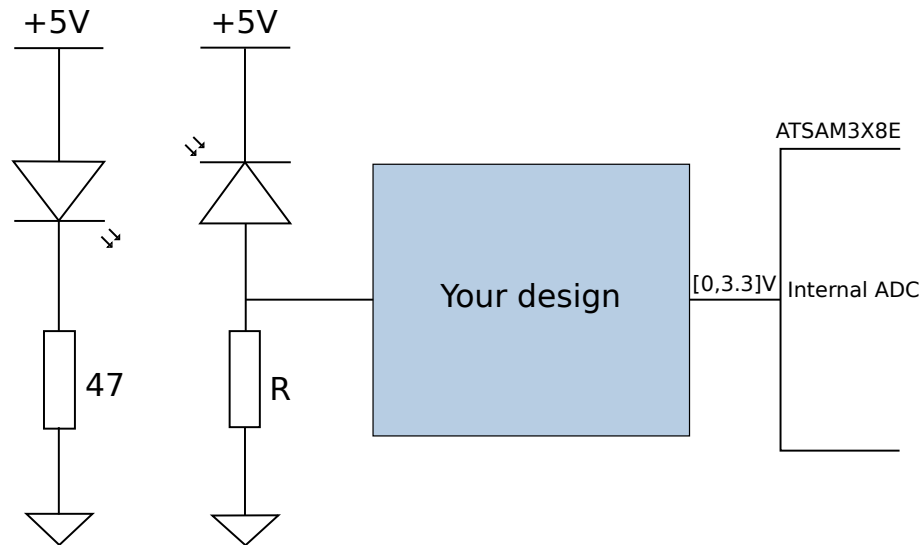

Figure 25: Suggested IR assembly
7. Connect the IR diodes in a way that makes it possible to detect when the IR beam is blocked. An example is given in Figure 25. You might consider implementing an analog filter. **Check that the signal is correct before connecting it to the microcontroller**